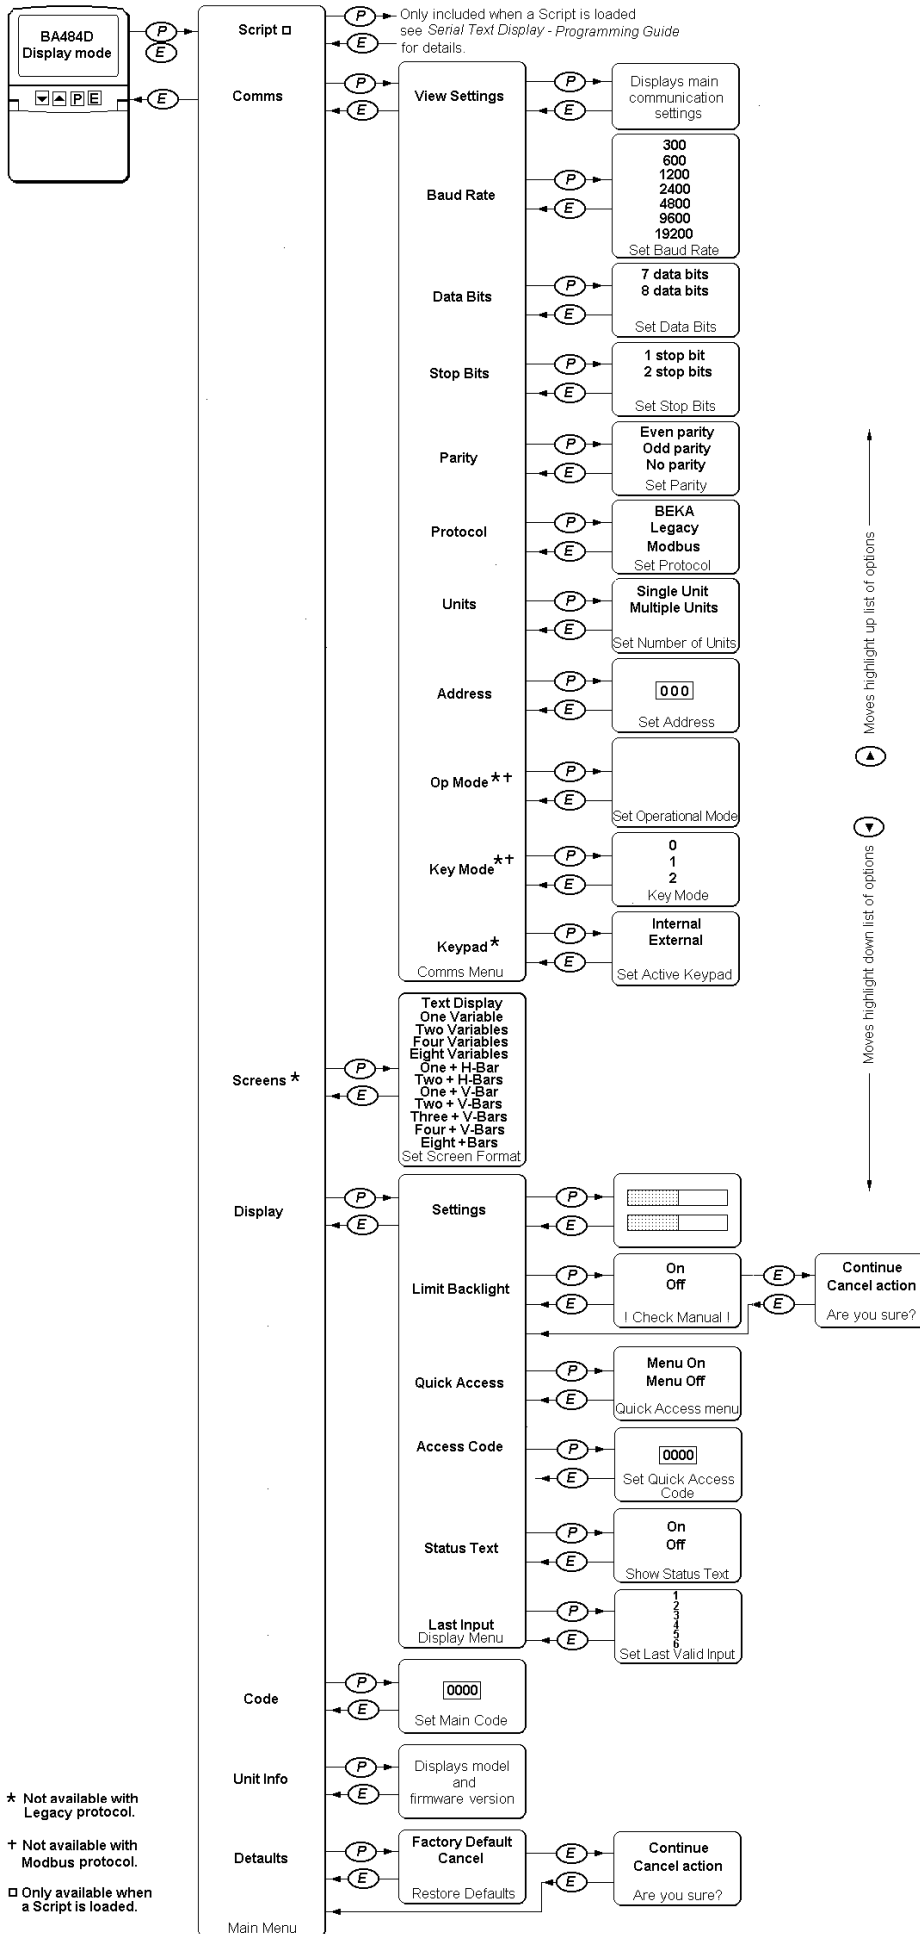

Fig 10 Structure of Configuration Menu
The BA484D is configured via the four front panel push-buttons. All the configuration functions are contained in an easy to use menu shown in Fig 10. Where necessary the sub-menus contain on-screen prompts to guide the user through each adjustment.
This section provides a brief explanation of each configurable function and should be read in conjunction with Fig 10.
4. To set the instrument's basic communications parameters enter the configuration menu by pressing the *P* and *E* push-buttons simultaneously. Fig 10 shows the menu structure and navigation.